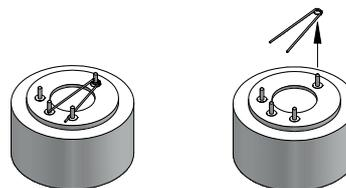

Fig. 16: Remove the shorting jumper from the sensor
5. Remove the shorting jumper. To do so, pull on the gold pins e.g. with long nose pliers (Fig. 16 “Remove the shorting jumper from the sensor” on page 25).